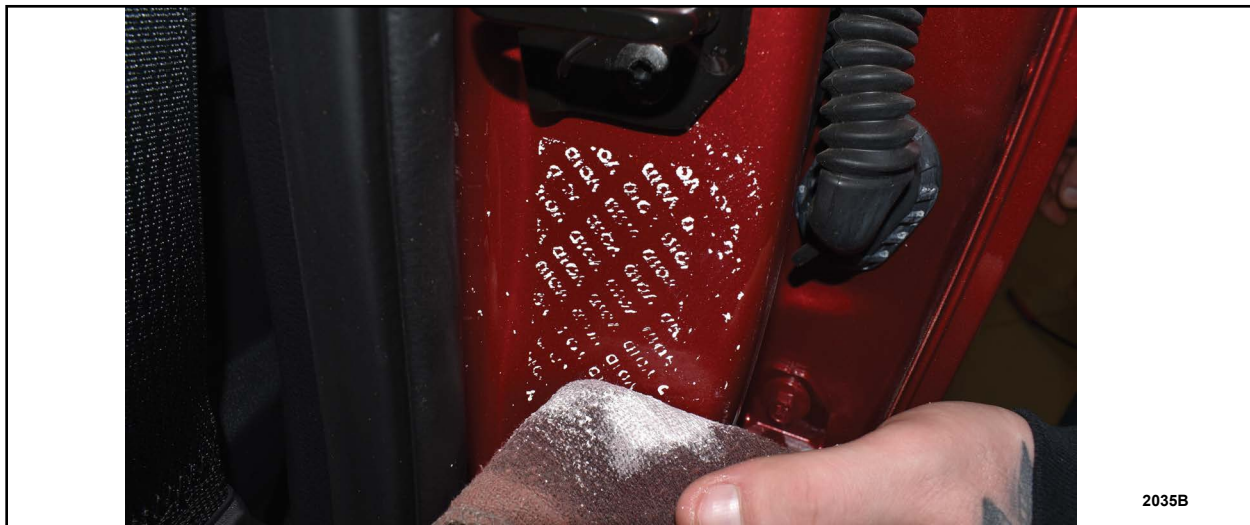

FIGURE 9
37. Using mineral spirits and a suitable clean cloth rag remove excess residue from the labels. See Figure 9.